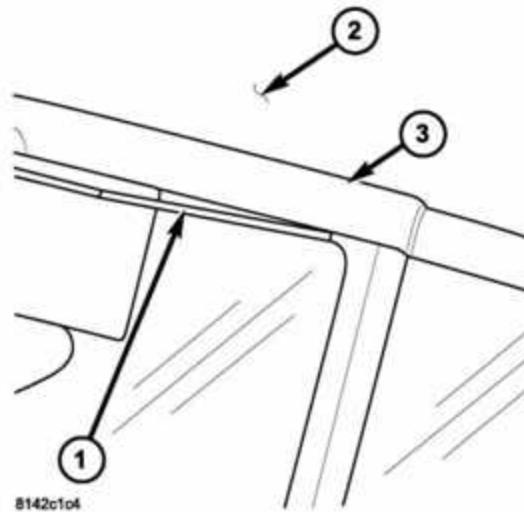

Fig. 2 CHECKING GAP AT ROOF SEAL
2. Check the window height to the roof weather-strip when the door is latched in the first catch position. The gap must be between 1 and 2 mm (.04 - .08 in.) from the upper edge of the glass to the roof weather-strip as shown in (Fig. 2).
- 7. Check the window height to the roof weather-strip when the door is latched in the first catch position. The gap must be between 1 and 2 mm (.04 - .08 in.) from the upper edge of the glass to the roof weather-strip as shown (Fig. 2).
11. Adjust the window height so the gap is between 1 and 2 mm (.04 - .08 in.) from the upper edge of the glass to the roof weather-strip as shown in (Fig. 2).